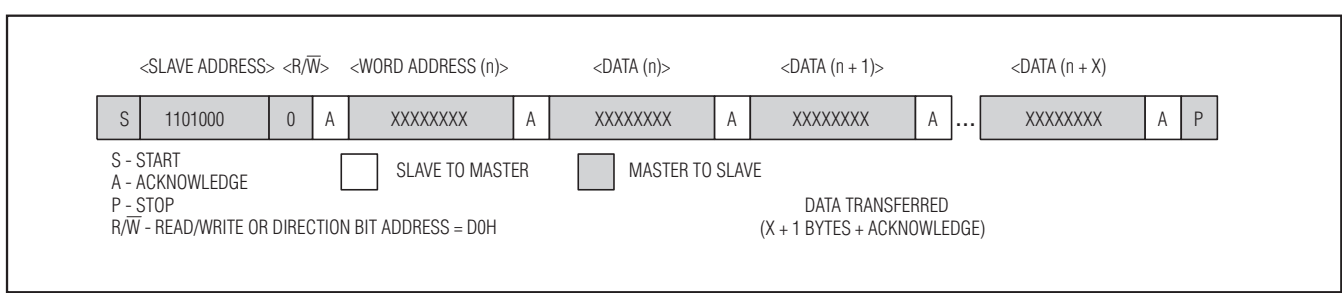

Figure 3. Data Write—RTC Slave Receiver Mode
**1) Slave receiver mode (DS32x35 write mode):** Serial data and clock are received through SDA and SCL. After each byte is received an acknowledge bit is transmitted. START and STOP conditions are recognized as the beginning and end of a serial transfer. Address recognition is performed by hardware after reception of the slave address and direction bit (see Figures 3, 5, and 7). The slave address byte is the first byte received after the master generates the START condition. The slave address byte contains one of the 7-bit DS32x35 addresses. The slave address is 1101000 for the RTC. For the DS32B35 FRAM, the first four bits are 1010, and the next three bits select one of eight blocks of data (see Table 2). For the DS32C35 FRAM, the first seven bits are 1010000. Each slave address is followed by the direction bit ( $\overline{R/W}$ ), which is zero for a write. After receiving and decoding the slave address byte, the device outputs an acknowledge on the SDA line. After the device acknowledges the slave address and write bit, the master transmits a register address to the device. For the DS32C35, the master transmits two bytes for the register address information. This sets the register pointer on the device. After setting the register address, the master then transmits zero or more bytes of data with the DS32x35 acknowledging each byte received. The master generates a STOP condition to terminate the data write.